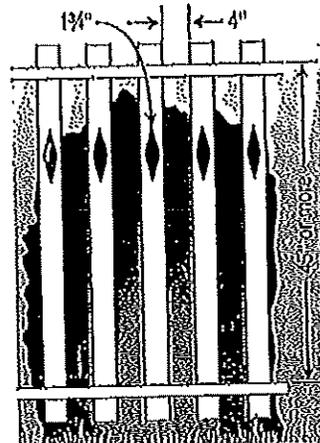

Figure 4
7. Spacing between vertical members should not exceed 1 3/4 inches in width. Where there are decorative cutouts, spacing within the cutouts should not exceed 1 3/4 inches in width (figure 4).